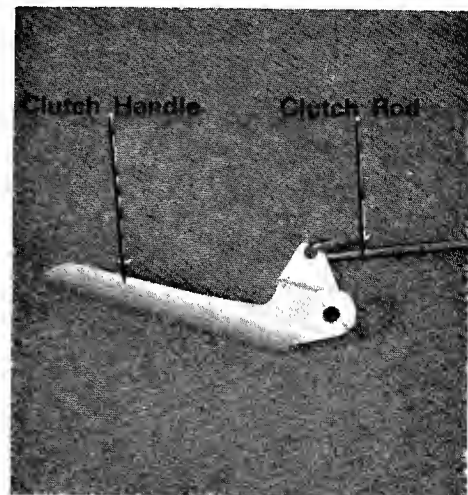

FIGURE 8
10. Attach the clutch handle to the clutch rod as it is shown in figure 8.